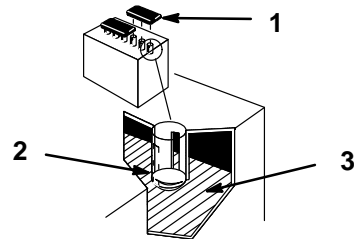

Figure 21
1. Open covers to see into the cells. The electrolyte must be up to the lower part of the tube (Fig. 21). Do not allow the electrolyte to get below the plates. (Fig. 21).
2. Lift off the filler caps (Fig. 21).
3. Slowly pour distilled water into each battery cell until the level is up to the lower part of the tube (Fig. 21).